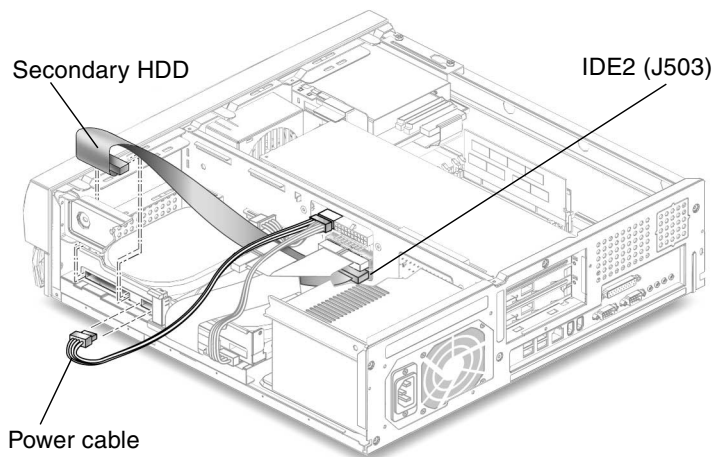

FIGURE 7 Secondary Hard Drive Cabling Configuration
10. Verify that the *secondary* IDE cable connector is connected to riser board connector IDE2 (J503). See FIGURE 7.
13. Connect the power cable to the secondary hard drive (FIGURE 7).